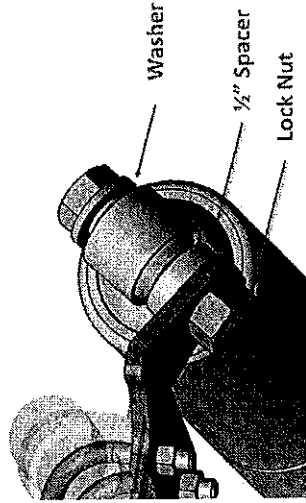

Figure 5
- Hang the large end of the SAFE T PLUS® from USI-1014 using the 3/4"-16 x 3-1/2" bolt, 1/2" spacer, washer, and lock nut (Figure 5)